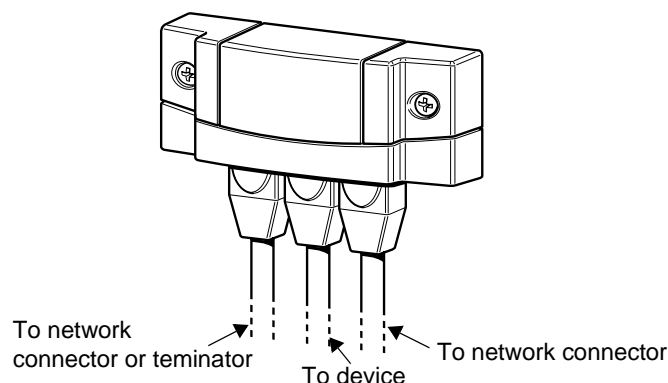

Figure 2-15 Three-Way Network Connector
The network connector is mounted to a bulkhead or a wall, as shown in Figure 2-15.
3. Install one network connector for each Charge Controller. See Figure 2-15 on page 2-19.